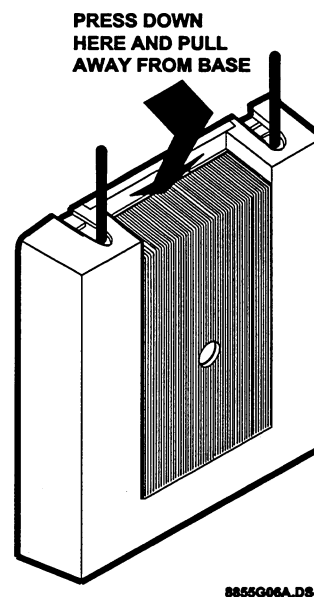

Figure 2. Removing the Expander's Cover
1. Remove the Expander cover by pressing down on the top center of the cover (see Figure 2).